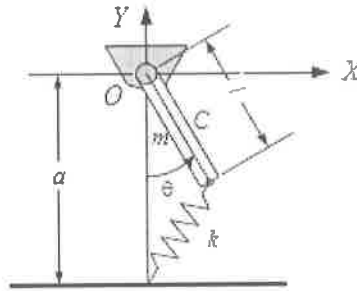

Figure 1:
6. Use the Lagrange method and find the equation of motion for the pendulum shown in Figure 1. The stiffness of the linear spring is k . [10]